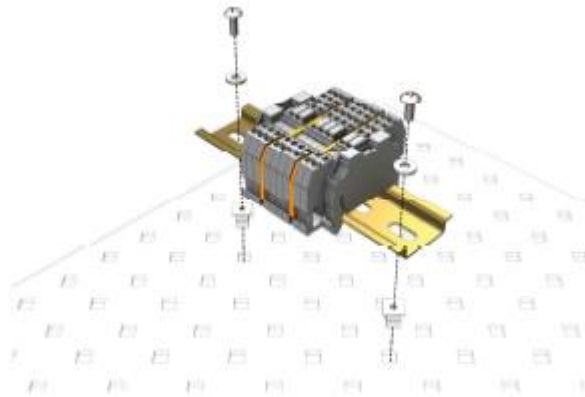

Figure A-5. DIN-Rail bracket mounted onto an enclosure backplate
3. Mount the DIN-Rail bracket onto the enclosure backplate using two #505 screws and two #6044 grommets (see Figure A-5).